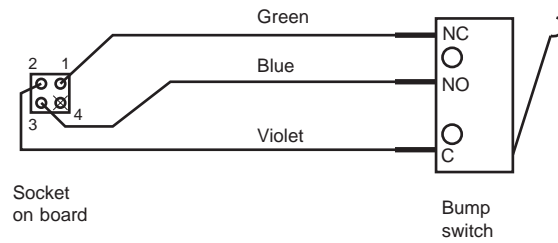

Figure 3.5: Schematic for bump switch cable.
- ◇ Test the bump circuit. Connect SPDT switches to all connectors of the bump circuit. (See Figure 3.5.) Run `bumper_test()` described in Chapter 2 to verify that the bumpers have been wired correctly.